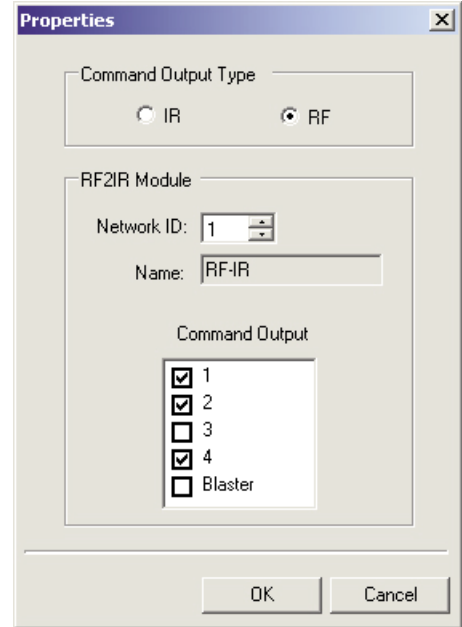

Figure 45: The IR command Properties window.
1. Right-click on the command in the macro window. The *Properties* window will appear (Figure 45).